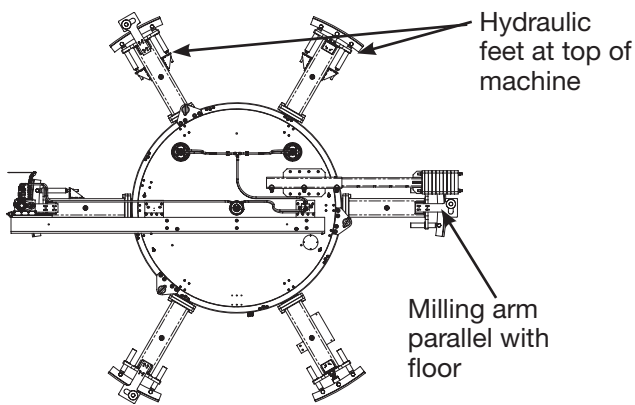

Figure 8: Front view of machine & base assembly before installing to trolley
2. Orientate the base so that the clamping feet are not at 12 & 6 o'clock but the hydraulic feet are at the top of the machine. Move the milling arm so it's parallel with the floor & lower the machine onto the machine support arms. See Figure 8 and 9.